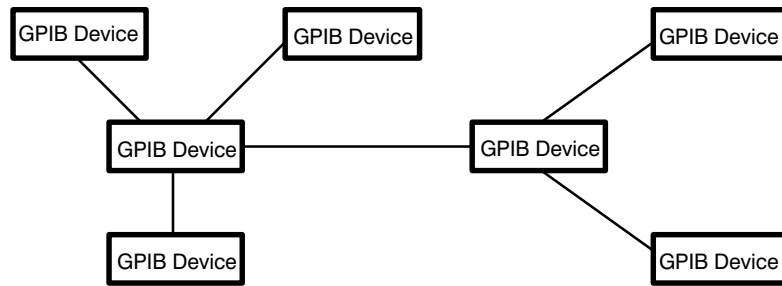

Figure 3-59: Typical GPIB Network Configuration
- There must be only one cable path from each device to each other device on your network (see Figure 3-59), and you must not create loop configurations.